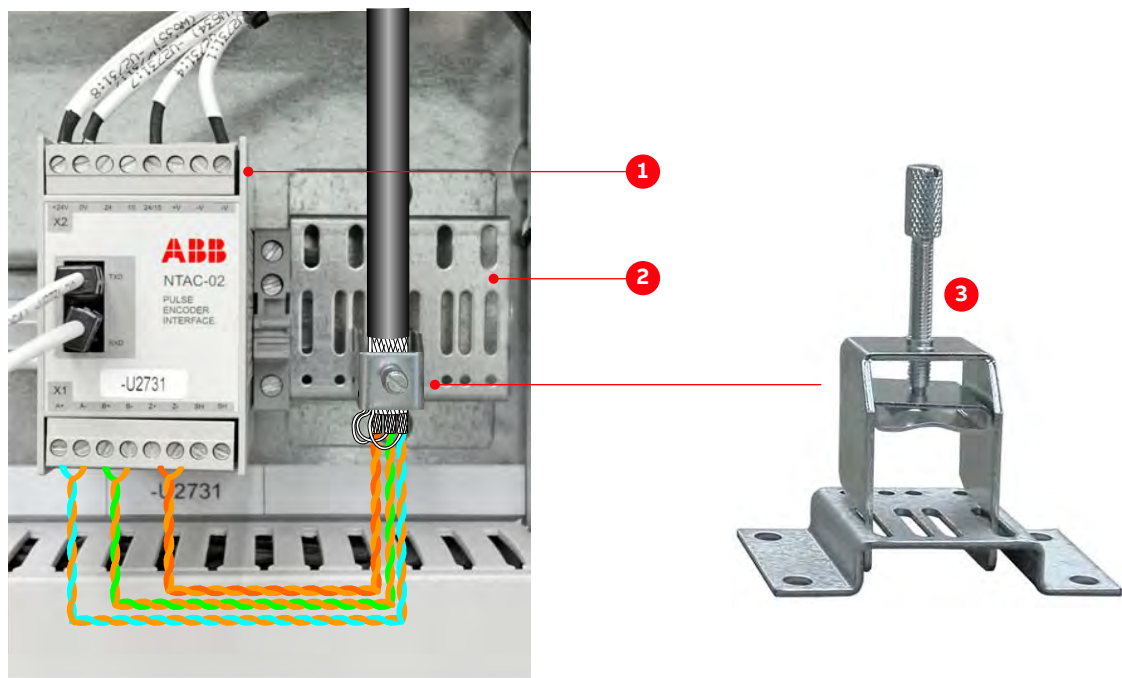

Figure 7-17: Shield grounding point for encoder cable
- Connect the overall shield and the individual shields of the encoder cable to the separate shield grounding bracket (2 in Fig. 7-17). Do not connect the shields directly to the encoder adapter (1 in Fig. 7-17).
Note: To accommodate encoder cables of different diameters, ground clamps (3 in Fig. 7-17) of different sizes are supplied.